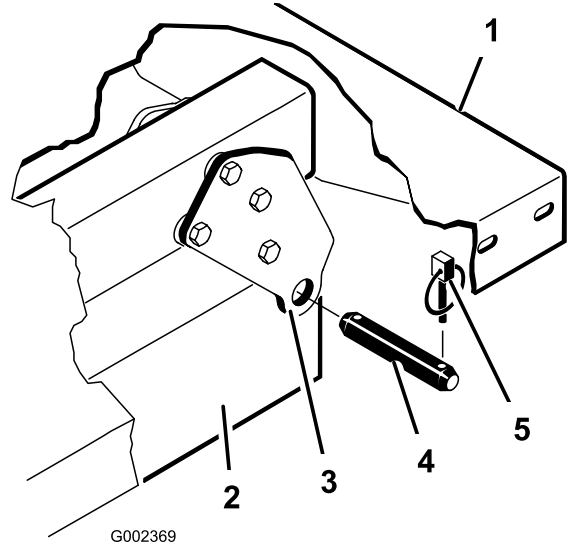

Figure 35
**Note:** Ensure that the rear pivot plates are bolted to the bed frame/channel so that the lower end angles to the rear (Figure 35).